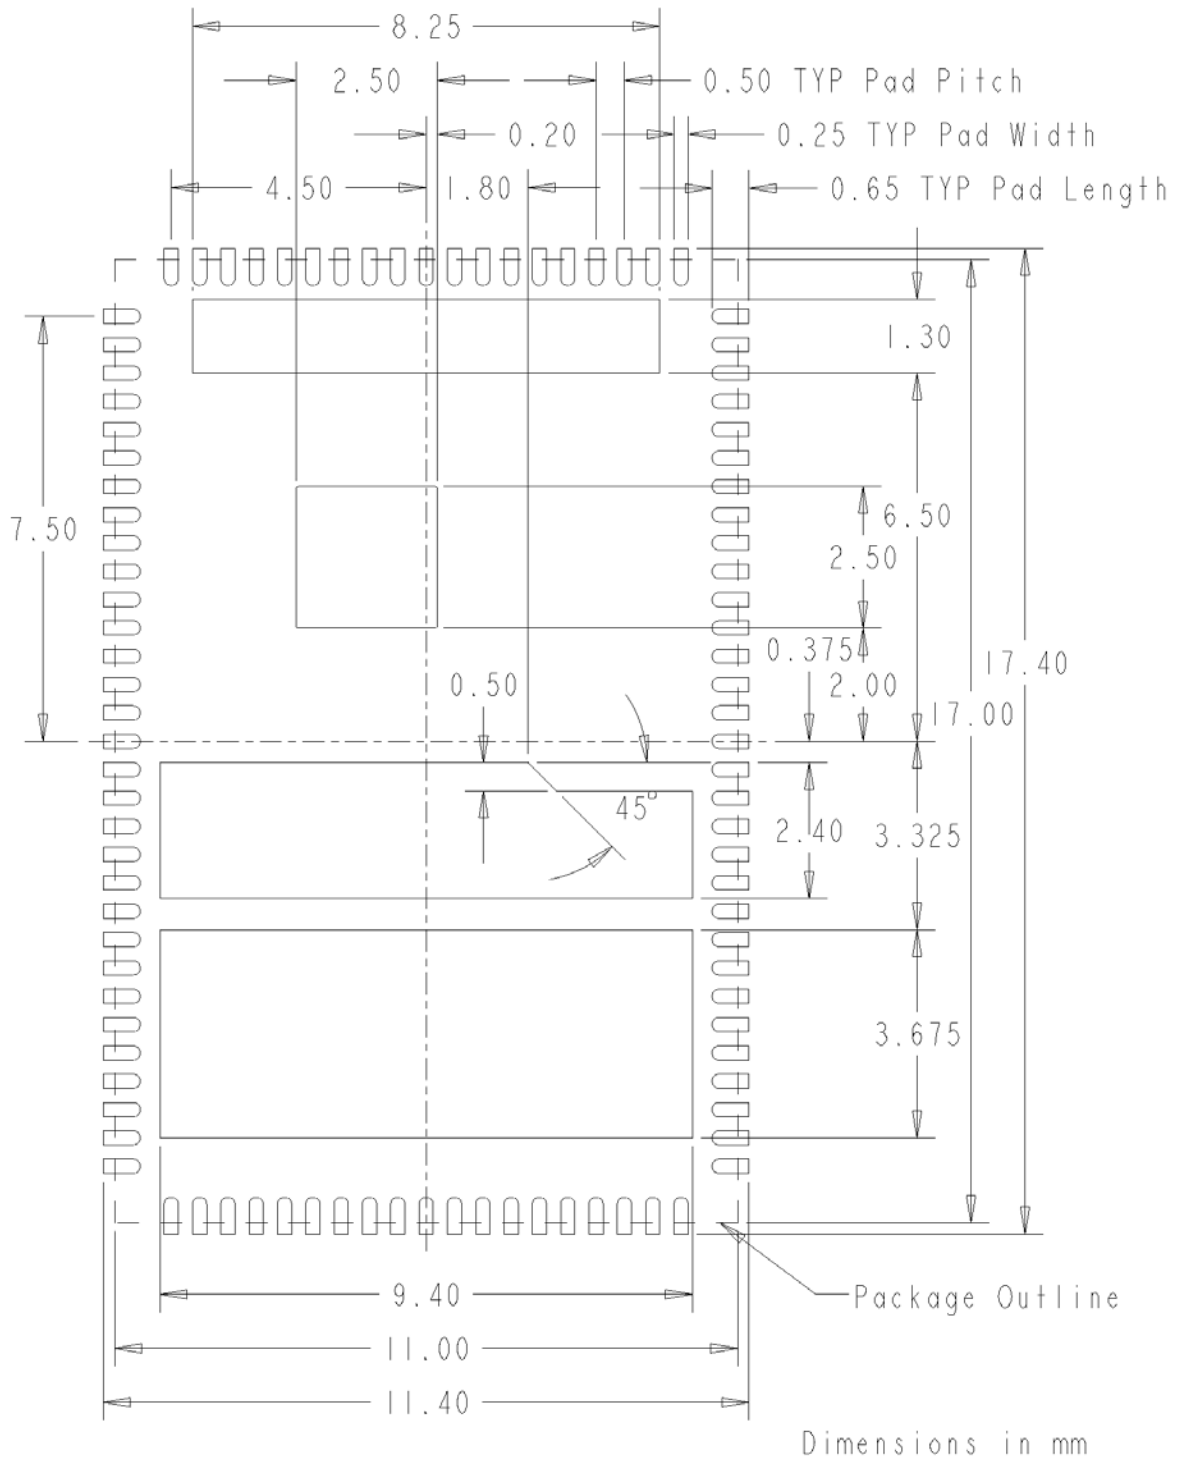

Figure 20: Recommended PCB Footprint
**Recommendation 7:** Figure 20 also shows the 0Ω resistor that connects AGND to PGND. The recommended connecting point, as shown, is to a quiet PGND → the output capacitors PGND.